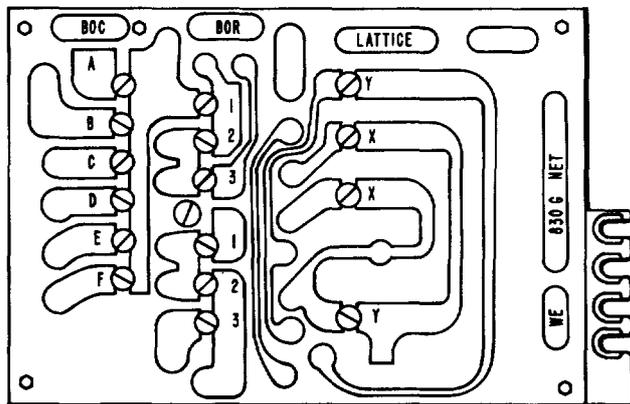

Fig. 1—830G Network
1.01 This section describes the 830G network (Fig. 1). This network is intended for use as a near-end line buildout (LBO) on E6 repeatered, 26-gauge, H88 loaded cable. See Table A for cable length limitations.